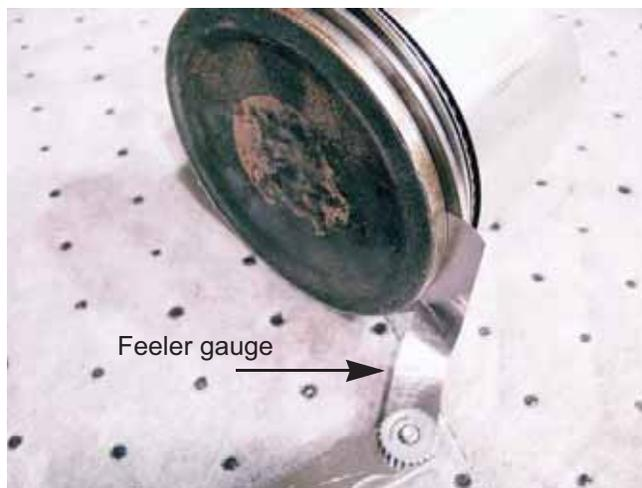

Figure 10.11
7. Measure the gap between the ring and the ring land using a feeler gauge and compare the measurement to the chart at the end of this chapter. See Figure 10.11.